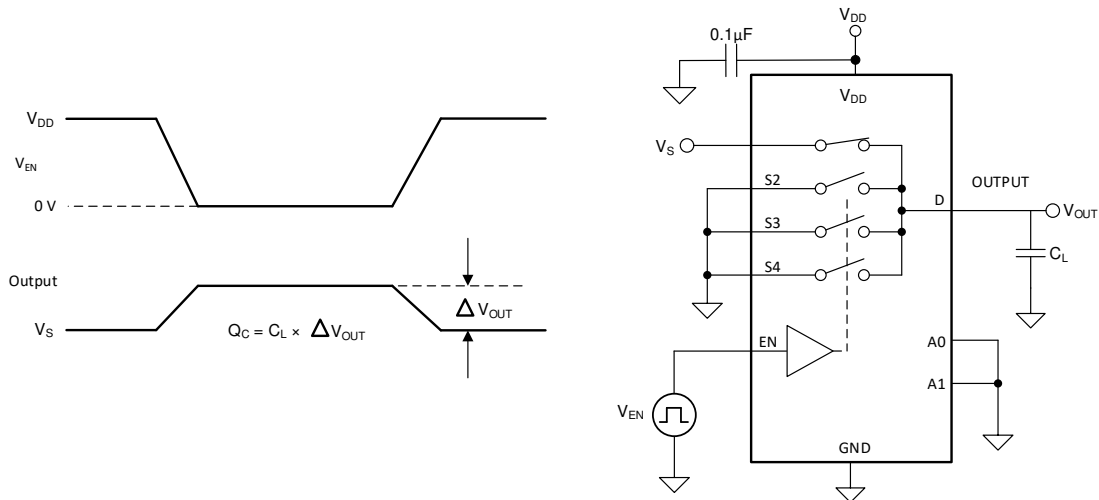

Figure 13. Charge-Injection Measurement Setup
The TMUX1204 has a transmission-gate topology. Any mismatch in capacitance between the NMOS and PMOS transistors results in a charge injected into the drain or source during the falling or rising edge of the gate signal. The amount of charge injected into the source or drain of the device is known as charge injection, and is denoted by the symbol Q_C . Figure 13 shows the setup used to measure charge injection from source (S_x) to drain (D).